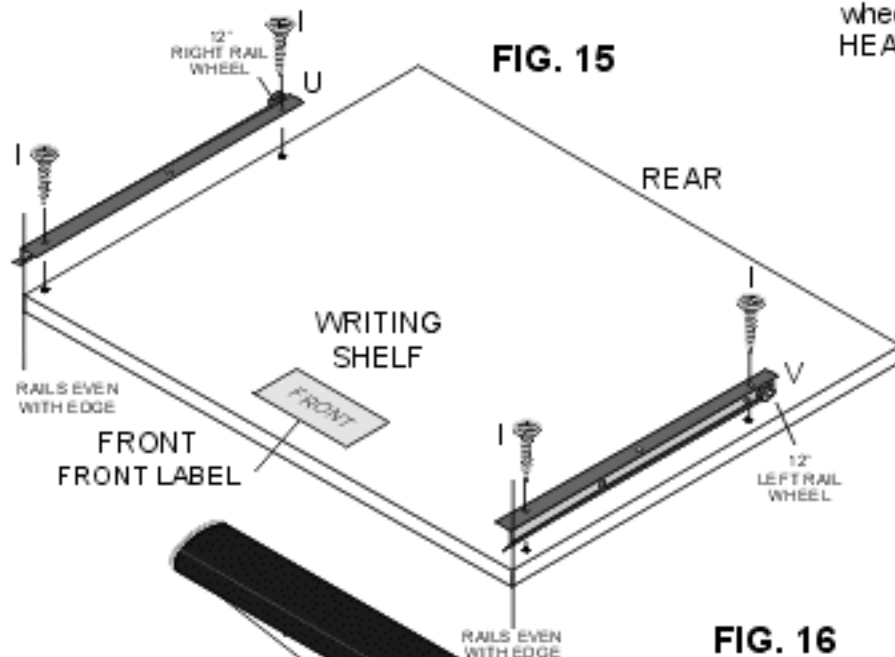

FIG. 15
Lay PAPER SHELF, drilled side facing up, on a flat, non-scratch surface. NOTE: Front label indicates FRONT of KEYBOARD SHELF. Align and attach (1) 12" RIGHT DRAWER RAIL (U) to left side of panel, wheel on rail to the REAR, using (2) #6 x 5/8" FLAT HEAD SCREWS (I). FIG. 15 Align and attach (1) 12" LEFT DRAWER RAIL (V) to right side of panel, wheel on rail to the REAR, using (2) #6 X 5/8" FLAT HEAD SCREWS (I).